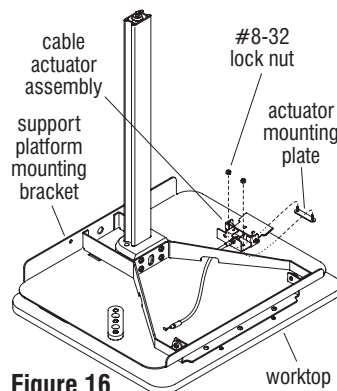

Figure 16
11. Locate and position the actuator mounting plate with the studs face-up, then move it into position between the worktop, and the worktop support platform as illustrated. You may need to raise the support platform slightly to insert the studs of the actuator mounting plate through the mounting holes in the support platform. Then move the cable actuator assembly into position, placing the actuator assembly mounting holes onto the studs of the mounting plate. Using two #8-32 lock nuts, secure the actuator assembly to the underside of the worktop support platform using a 7/16" socket and wrench (Figure 16 & Detail V).